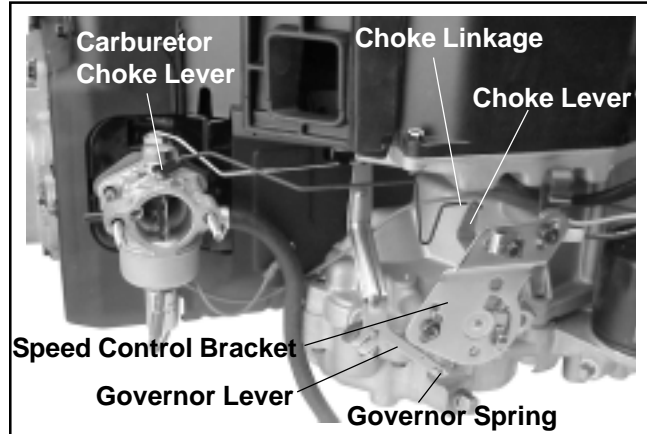

Figure 11-64. Installing Choke Linkage and Speed Control Bracket.
7. Connect the long end of the choke linkage to the carburetor choke lever. See Figure 11-64.
10. Install the governor spring in the appropriate hole in the governor arm, and through the hole/slot in the throttle lever on the governor bracket assembly. See Figure 11-64. Refer to Section 5 for correct hole use/spring installation.